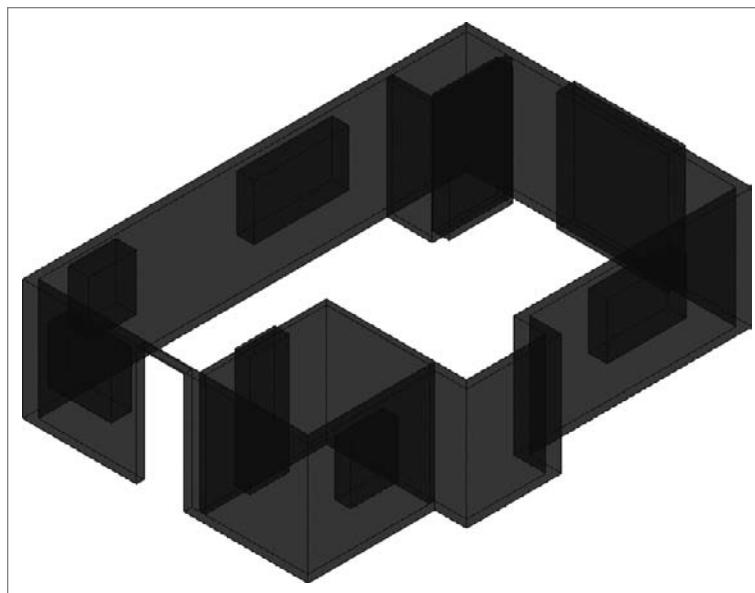

FIGURE 16.24 The back door subtracted from the exterior wall of the cabin
4. At the **Select solids, surfaces and regions to subtract.. Select objects:** prompt, select the back door and then press ↵. The door block-out, and the volume that it shared with the wall, are subtracted from the exterior wall (see Figure 16.24).